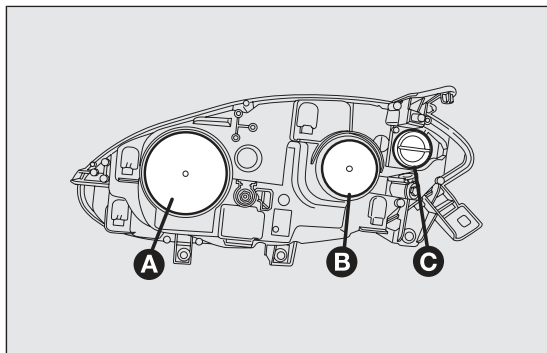
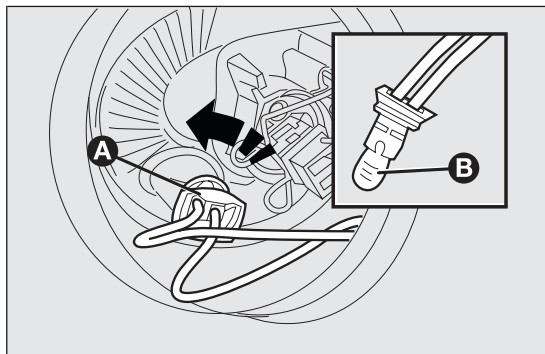

fig. 157
fig. 159
- ☐ remove the protective cover B fig. 157;
- ☐ refit the protective cover A fig. 157.
- ☐ remove the protective cover A fig. 157;
- ☐ turn the bulb holder A fig. 159 anticlockwise and remove it;
- ☐ refit the new bulb, put the bulb holder A fig. 159 back into place and then refit the protective cover B fig. 157 properly.
- ☐ refit the protective cover B fig. 157.
- ☐ rotate the protective cover C fig. 157 anticlockwise;